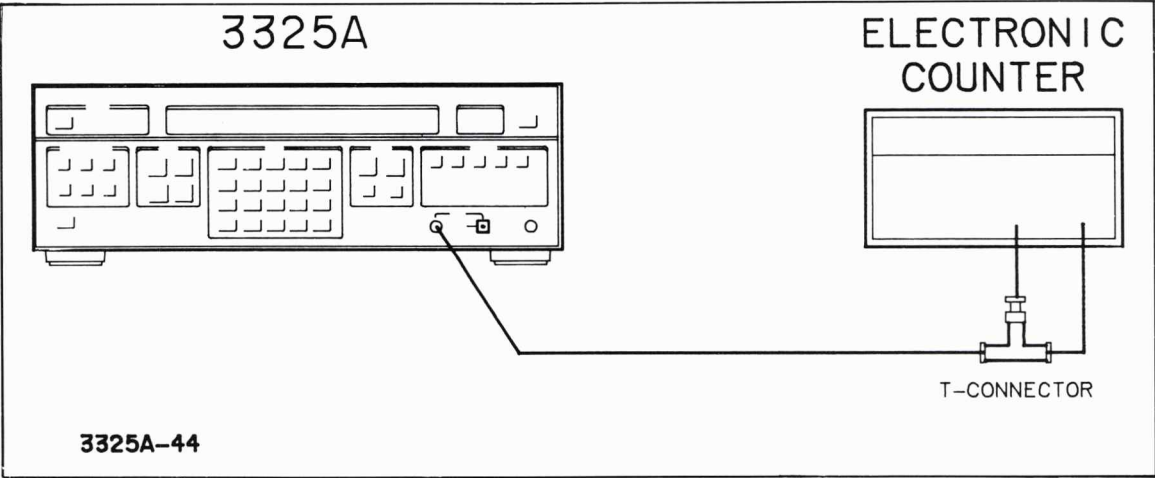

Figure 4-5. Square Wave Symmetry.
a. Connect the 3325A signal output to both inputs of the electronic counter, using a BNC tee (see Figure 4-5).